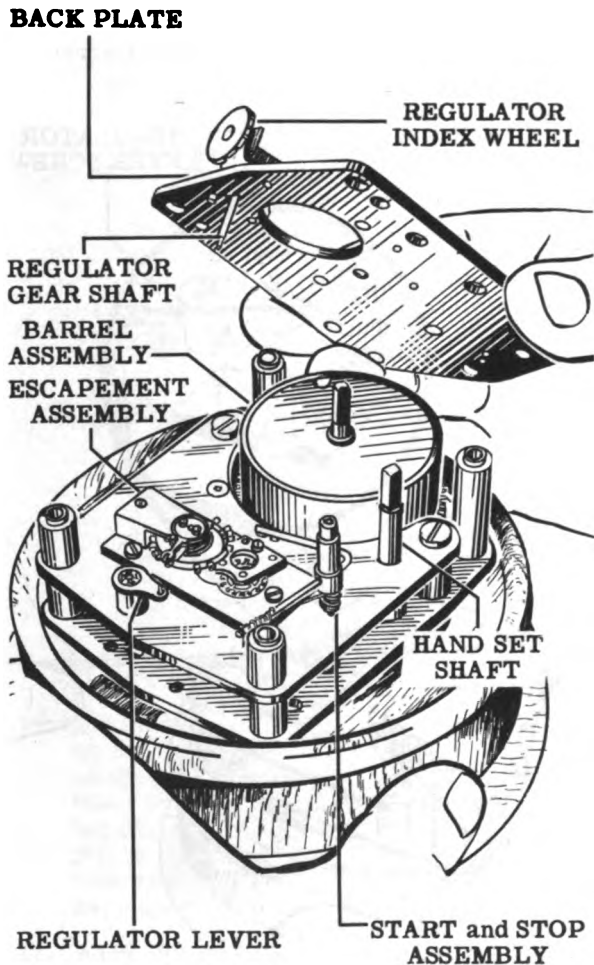

Figure 98—Boat and Deck Clock Movement
17. Check to see that all components of the start and stop assembly are in their proper positions on the start and stop shaft. Place the start and stop shaft in position on the train plate and make any necessary adjustments to put it in proper operating condition. See Fig. 98.
18. Put the back plate in position as shown in Figs. 98 and 99 and fasten it down with the four back plate screws. Use the special collar (Tool No. 13A) on the end of an automatic screwdriver.